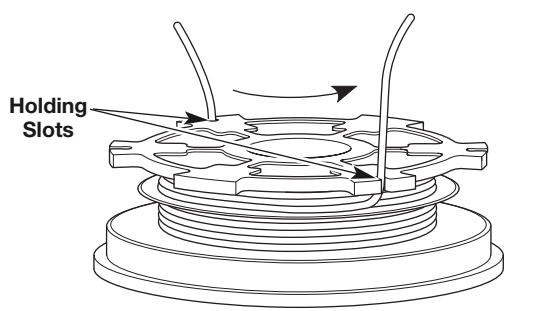

Fig. 18
3. Insert the two 6-inch sections into the two .095 holding slots (Fig. 18).
4. Insert the two 6-inch sections into the two .095 holding slots (Fig. 18).